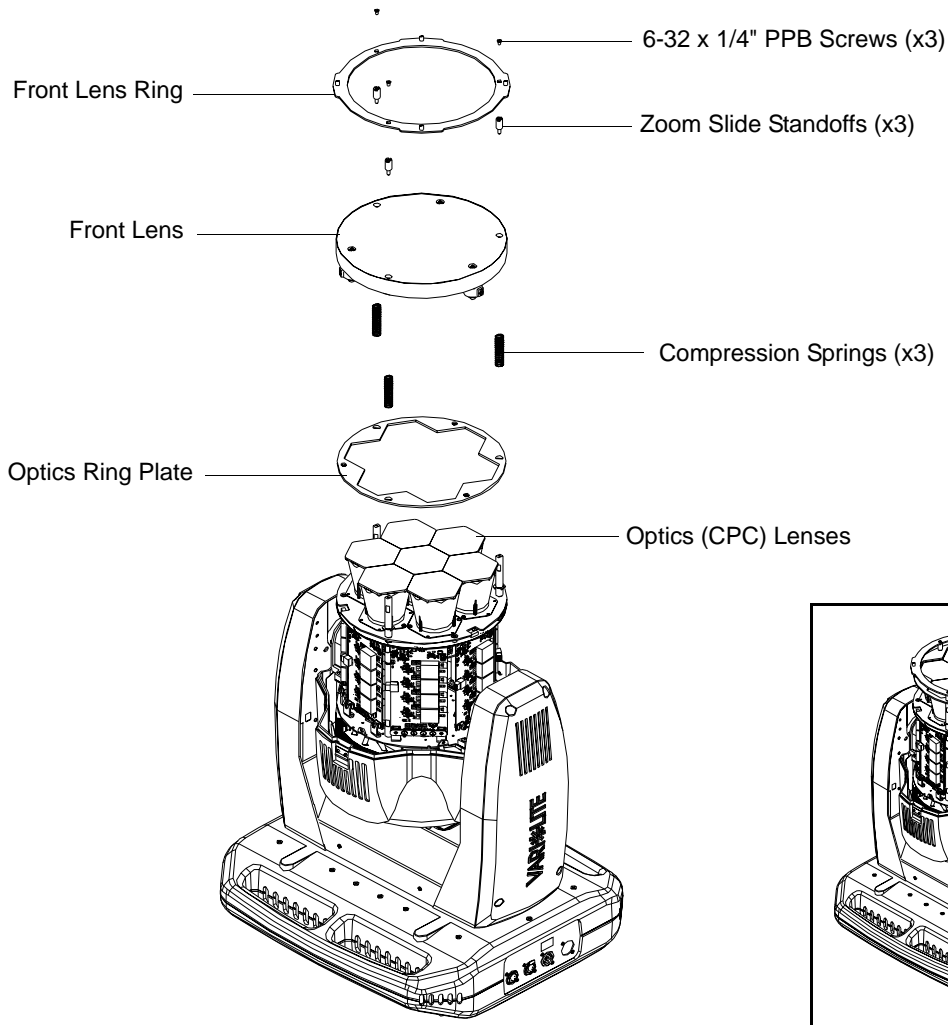

Figure A-3: Front Lens Removal
Step 6. At head assembly, as shown in Figure A-3, remove front lens assembly as follows: